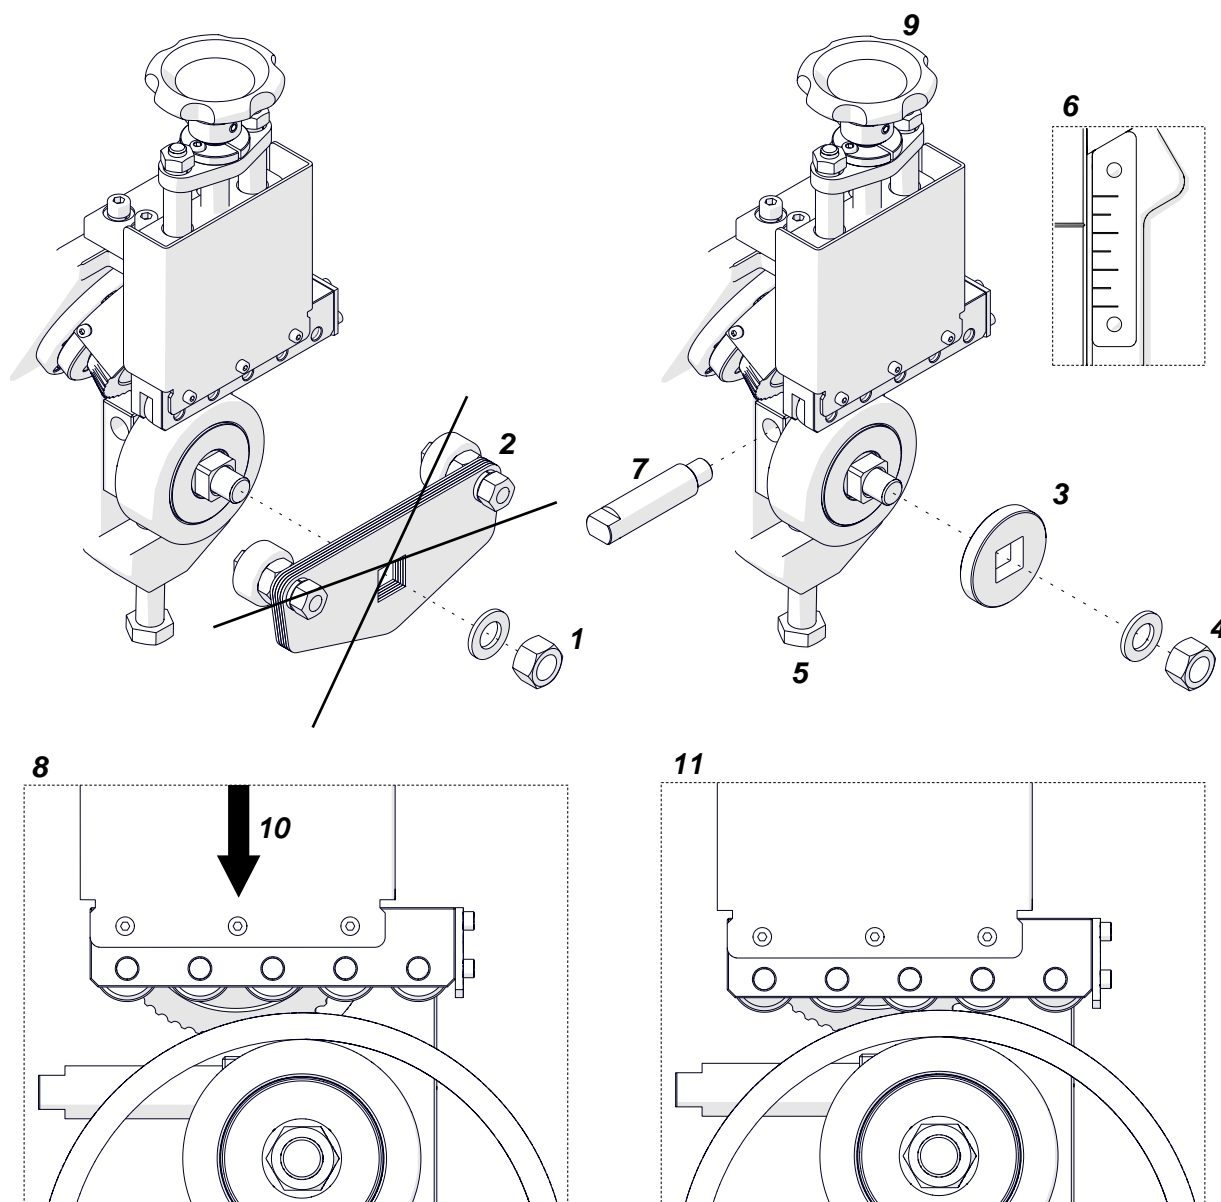

Fig. 3. Installing the washer and adjusting the bevel height and the clamp
Use the 24 mm flat wrench to remove the nut (1, Fig. 3) and remove the guide (2). Install the washer (3) to the position where the guide was, and lightly tighten the nut (4). Rotate the bolt (5) so that the scale is set to the value of the pipe wall thickness (6), and then tighten the nut (4) as much as possible. Next, attach the shaft (7) and put the pipe onto the guide roller (8). Use the knob (9) so that the clamp rollers are on the pipe (10, 11). Make sure that the rollers do not press the pipe firmly.